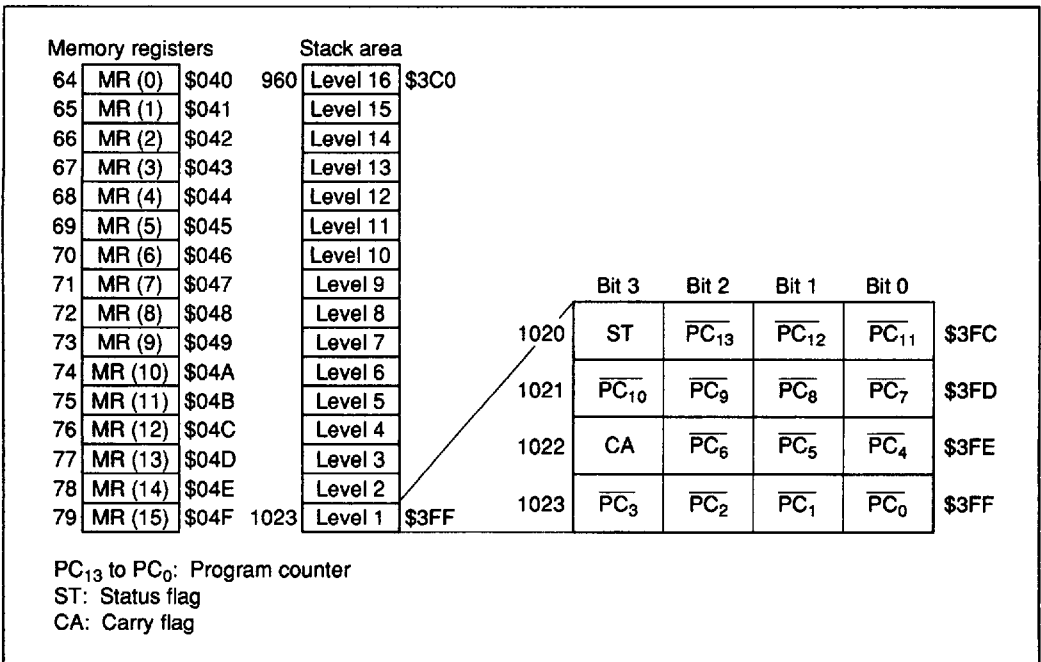

Figure 4 Configuration of Memory Registers, Stack Area, and Stack Position
Data Area (\$040 to \$1FF): The 16 digits of \$040 through \$04F are called memory registers (MR) and are accessible by the LAMR and XMRA instructions (figure 4).
Stack Area (\$3C0 to \$3FF): Locations \$3C0 through \$3FF are reserved for LIFO stacks to save the contents of the program counter (PC), status flag (ST), and carry flag (CA) when subroutine calls (CAL or CALL instruction) and interrupts are processed. This area can be used as a 16-level nesting stack in which one level requires 4 digits. Figure 4 shows the save condition. The program counter is restored by the RTN and RTNI instructions. The status and carry flags are restored only by the RTNI instruction. This area, when not used for a stack, is available as a data area.